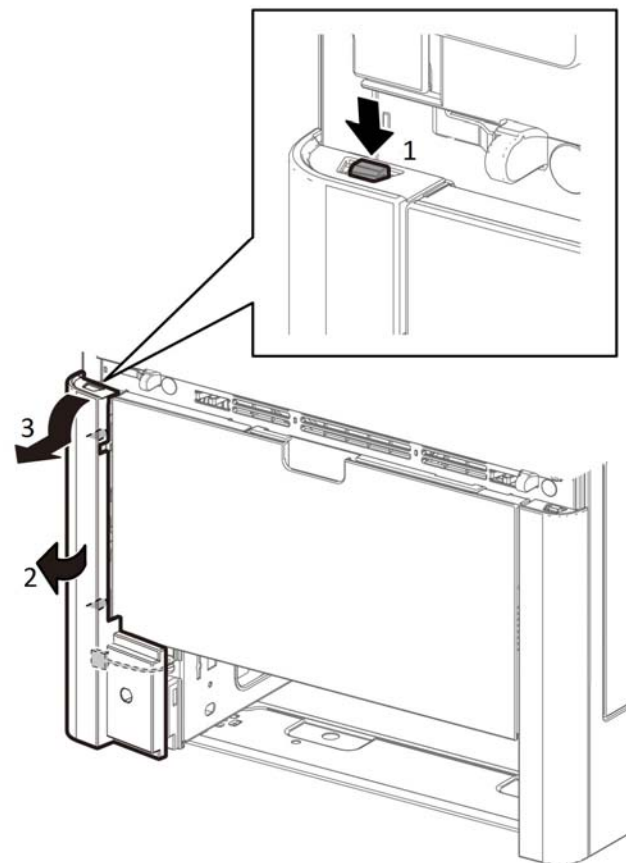

Figure 1 Remove the left front cover
1. Refer to Figure 1, push down on the hook release button to release the top of the left front cover in the direction of the arrows.